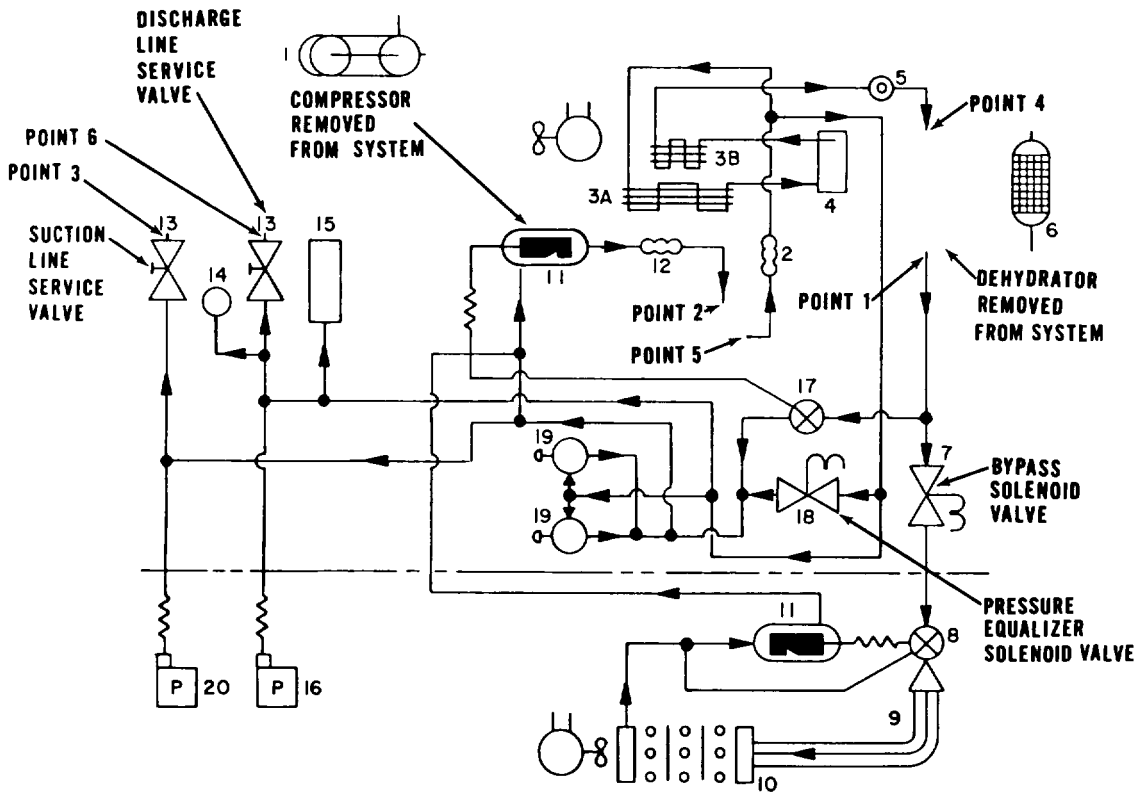

Figure 5-22. Refrigerant Flow System with Dehydrator and Compressor Removed
- Refer to figure 5-22 and connect the discharge line of the pump to the tubing at point 1. Connect the recovery line to the tubing at point 2. Leave the suction line service valve (point 3) closed. Cap the tubing at points 4 and 5.
(k) Refer to figure 5-22 and purge the system with nitrogen at approximately 30 psig (2.11 kg/cm²) as follows: